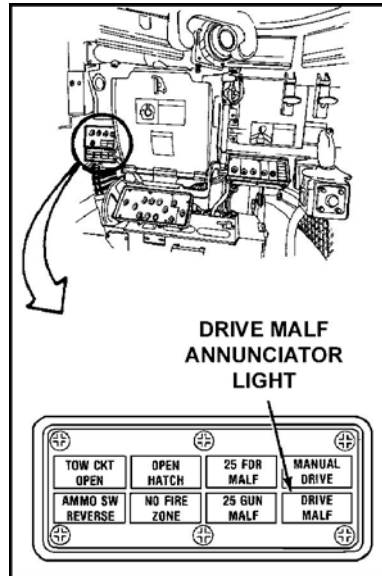

Figure 5. Annunciator box.
15. Make sure that the DRIVE MALF annunciator lights on the turret control and annunciator boxes are not on (Figure 5).